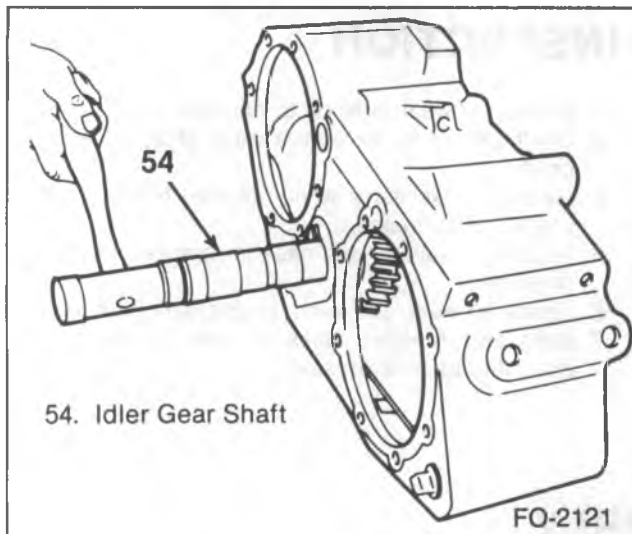

Figure 12—Installing the Idler Shaft
- Drive the shaft through, using a soft hammer (figure 12).
5. Washer (28).
6. New locknut (27).